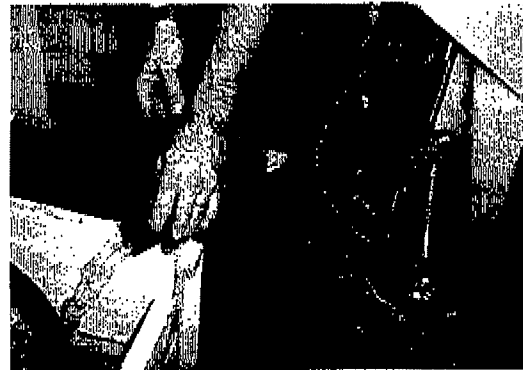

FIG. 31
1. Push machine to floor drain and turn off all switches. Remove left side drain hose from holder, position hose over drain, twist loose, and remove drain hose cap (Figure 31).